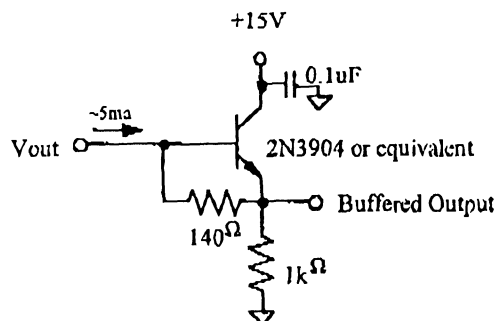

Figure 4 - Recommended Output Structure Load Diagram
Charge presented to the floating diffusion (FD) is converted into a voltage and current amplified in order to drive off-chip loads. The resulting voltage change seen at the output is linearly related to the amount of charge placed on FD. Once the signal has been sampled by the system electronics, the reset gate (ΦR) is clocked to remove the signal and FD is reset to the potential applied by V_{rd} . More signal at the floating diffusion reduces the voltage seen at the output pin. In order to activate the output structure, an off-chip load must be added to the Vout pin of the device - see Figure 4.